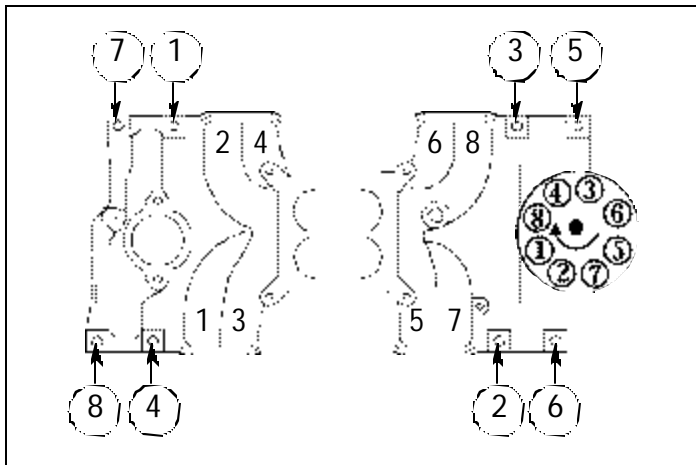

Figure 3 - Vortec/E-Tec Manifold Bolt Torque Sequence
- 5b) Install the intake manifold and hold-down bolts. On applications with Vortec or E-Tec cylinder heads, torque all of the manifold bolts in two steps by the sequence shown in Figure 3 to 11 ft/lbs